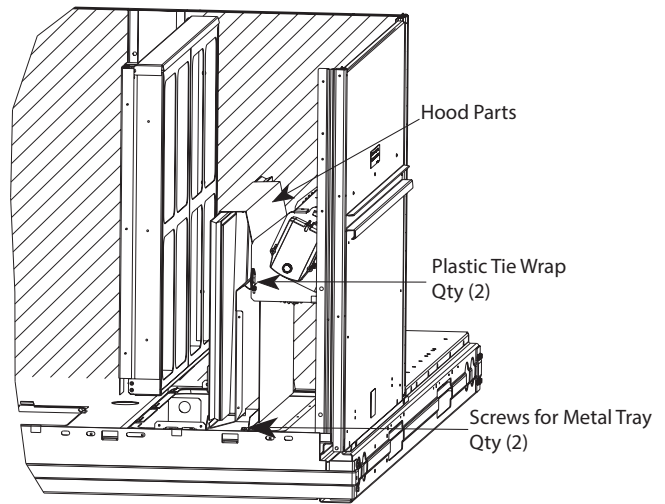

Fig. 13 — Economizer and Two-Position Damper Hood Parts Location
3. Locate the (2) screws holding the metal tray to the basepan and remove. Locate and cut the (2) plastic tie-wraps securing the assembly to the damper (see Fig. 13). Be careful to not damage any wiring or cut tie-wraps securing any wiring.